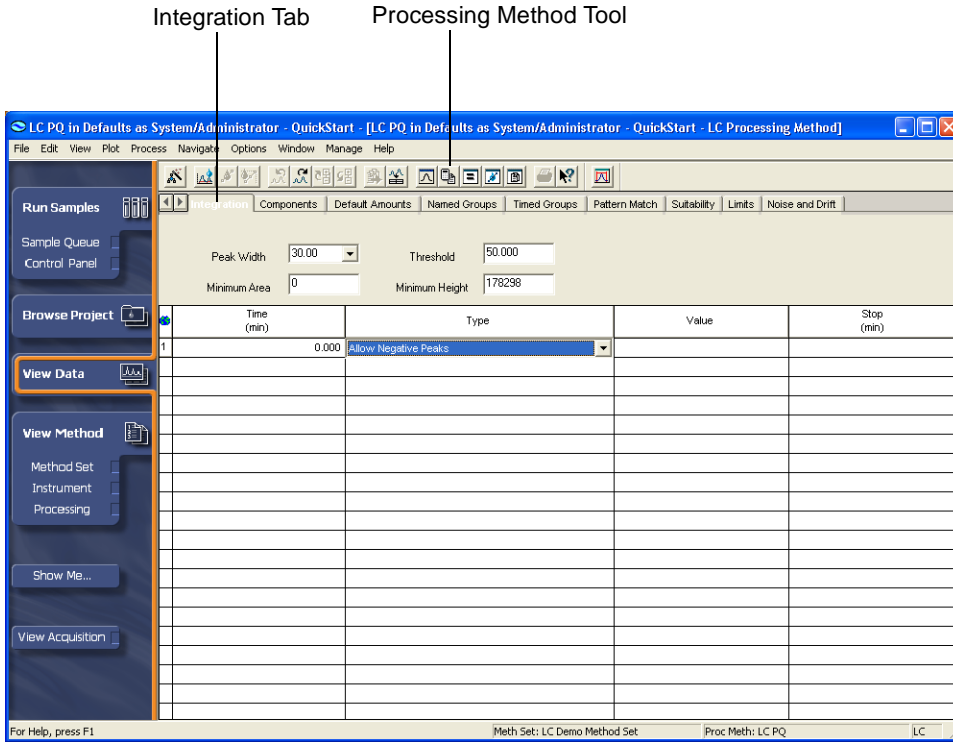

Figure 6-5 View Data—Processing Method Window, Integration Tab
- Click  (Processing Parameters) to access the Processing Method window (Figure 6-5). If necessary, click the **Integration** tab.